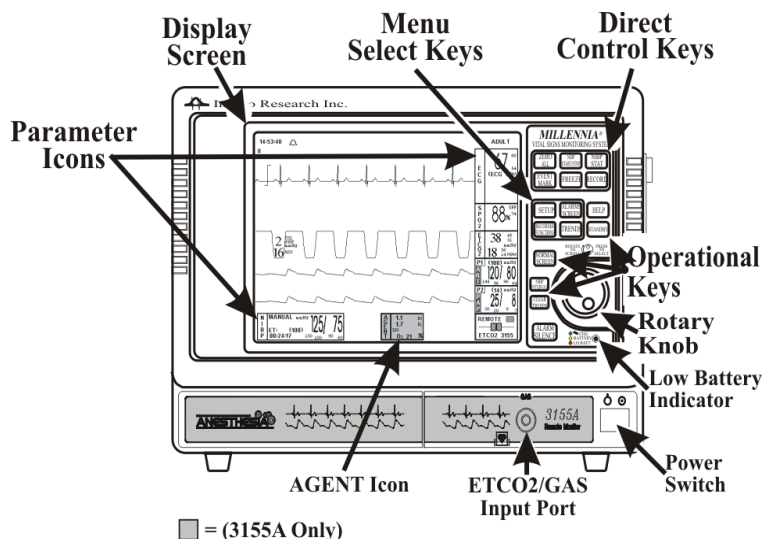

Figure 1-1. The Front Panel
1.2.1 Front Panel Controls. (See **Figure 1-1**) The **3155A/3155MVS Monitor** front panel consists of one Rotary Knob, six Direct Control keys, four Menu-Select keys, five Operational keys, one **Alarm Silence** key and the Power On/Off switch. The 3155A also contains an ETCO2/Gas Input Port and additional graphics on the bottom of the front panel. The following is a general description of the front panel controls.